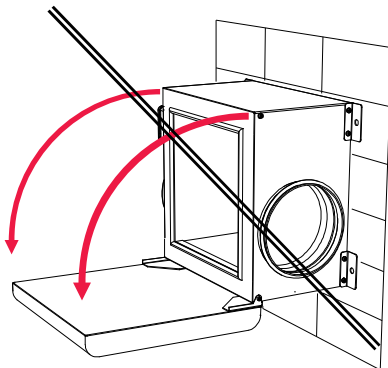

Fig. 5.5.3 Inappropriate fan installation
- The fan can be installed on the wall, floor or ceiling. Four (4) fastening screws are supplied for this purpose.
- Inappropriate fan installation is shown in Fig. 5.5.3.